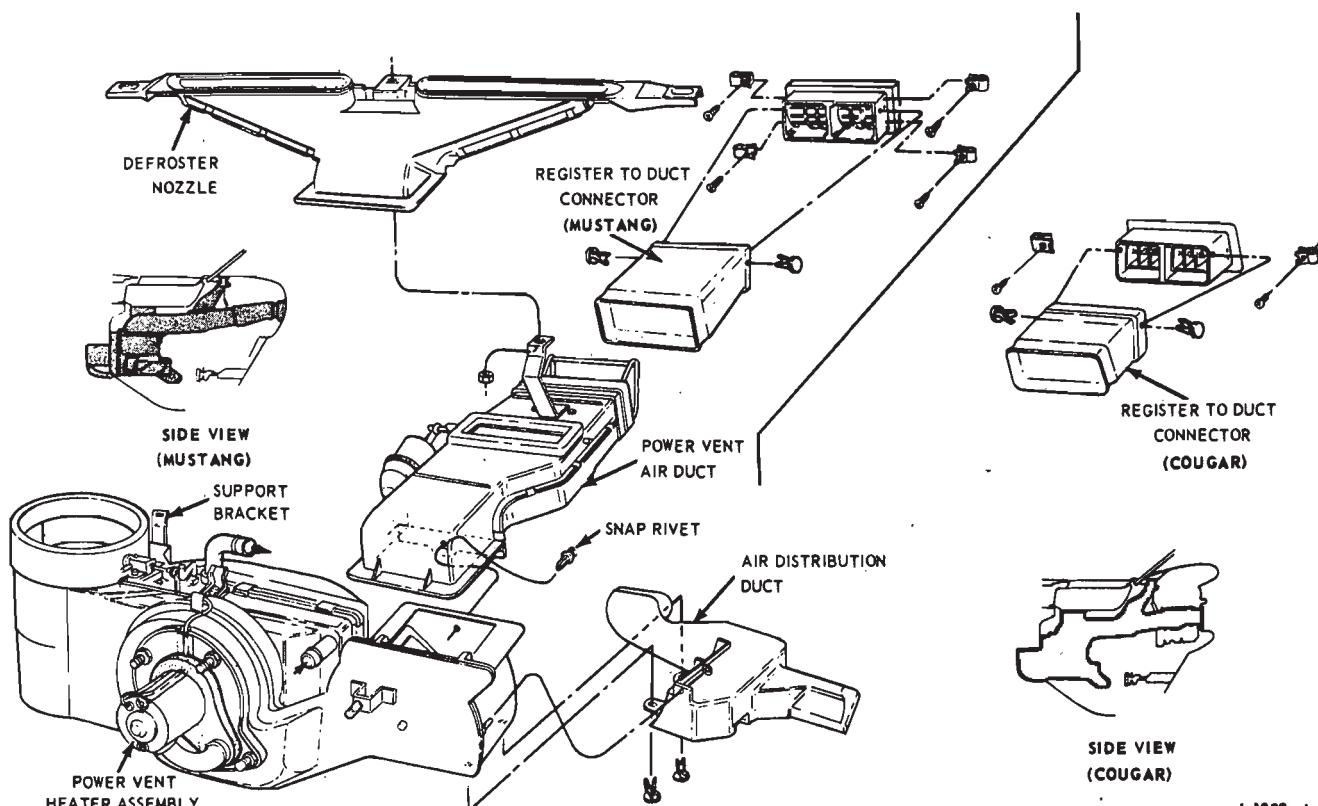

FIG. 38—Power Ventilation Heating System Disassembled
10. Disconnect the vacuum hoses and remove the power vent air duct (Fig. 38) as outlined in this section (Power Ventilation Heating System Only).
3. Install the power vent air duct (Fig. 38) and connect the vacuum hoses (Power Ventilation Heating
5. Remove the air duct support bracket and defroster center attachment retaining nut (Fig. 38).
1. Position the air duct to the heater plenum and install the snap rivet (Fig. 38). Connect the hose to the vacuum actuator.
3. Install the duct connector on the air duct (Fig. 38).